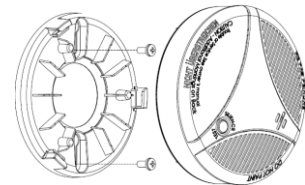

Figure 9: Mounting the bracket
8. Please write your install date on attached label of Date of install in the package, and paste it on obvious place, shown in **Figure 9**.